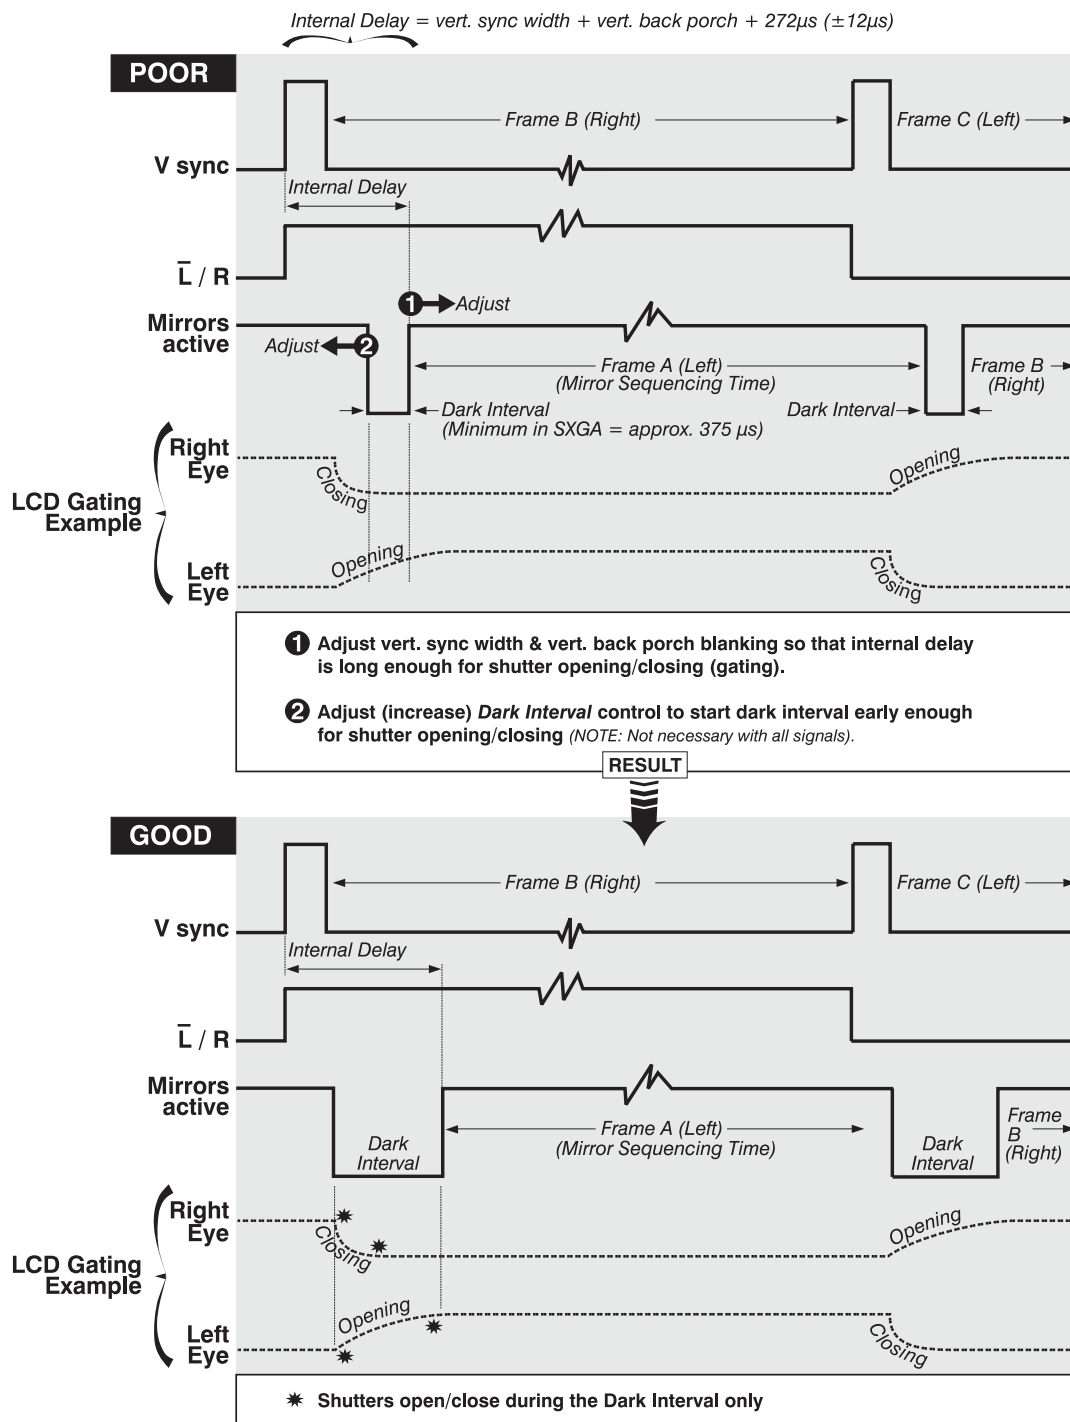

Figure 3.35. Customizing the Input Signal
- 1) **Vertical sync width** and/or **vertical back porch blanking** of your input source. Choose the vertical sync width and/or vertical back porch timing to determine when the next field begins displaying relative to the vertical sync signal. The degree of timing adjustment needed depends on the specific signal at hand as well as the performance of your glasses. An example of improvements to poor synchronization is shown in Figure 3.35. After adjustment, shutter changes occur during the dark interval between frames.
NOTE: The example in Figure 3.35 assumes that the first active line of your signal is displayed on the first line of the Mirage display panel rather than being repositioned higher or lower using the projector's V-Position control.